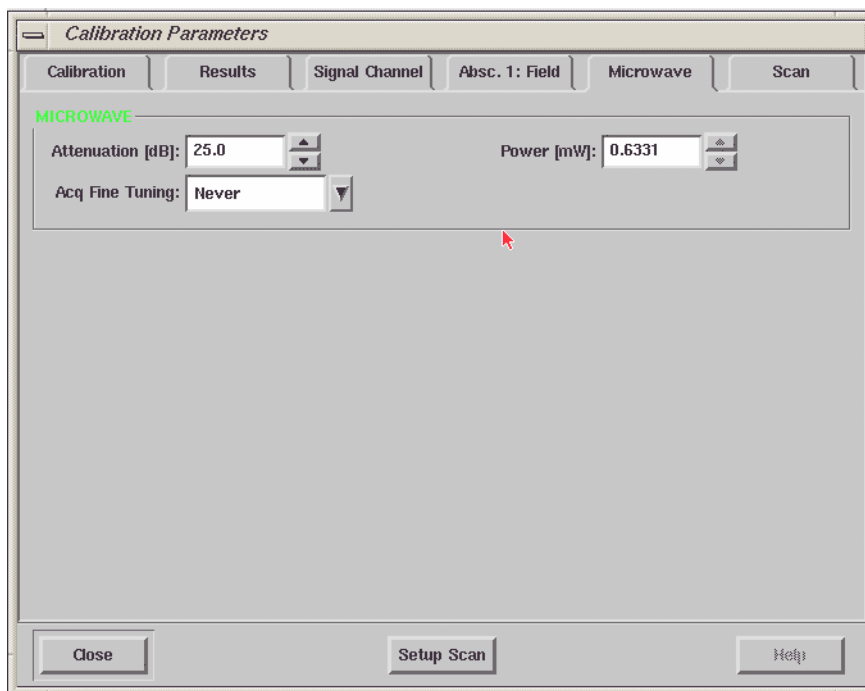

Figure 2-9 The Microwave folder of the Calibration Parameter dialog box.
12. **Set the Microwave Attenuator to approximately 25 dB.** Click the **Microwave** tab. Set the microwave power to 25 dB. (See Figure 2-9.)